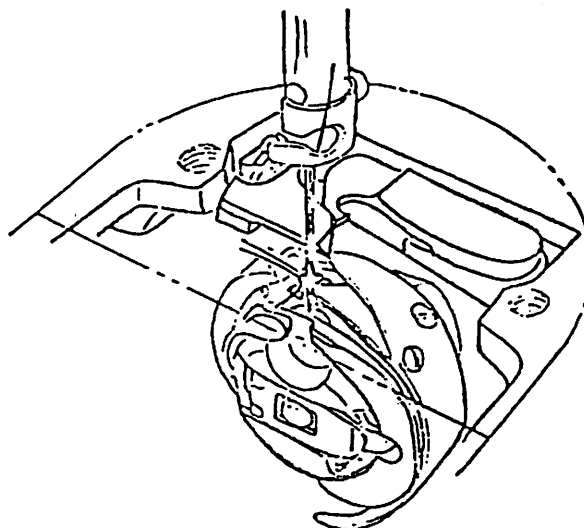
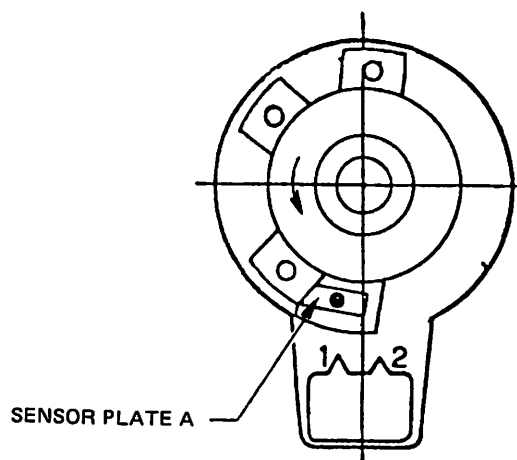

Fig. 5
Fig. 6
1. When the foot treadle is returned to its neutral position upon completion of the sewing cycle, the machine stops approximately 3mm (.118") beyond the bottom dead center of the needle (Fig. 5, hook point in the loop of needle thread) when the sensor plate A (red) reaches a point shown in Fig. 6.